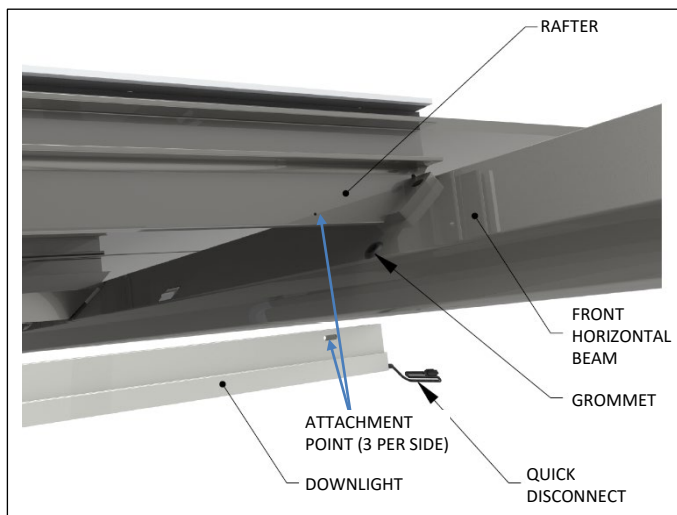

Fig. F5 – install rafter light
2. First rafter downlight: make connection at front horizontal to quick disconnect. Push rafter light connection through grommet. Grommets may be removed to push wires through and then reinstalled, if necessary. See Fig. F5. Using a 3/32" hex key, attach downlight to rafter using (6) #8-32 x 5/16 socket button head cap screws, located in hardware pack #62599. Do not overtighten screws.
3. Install remaining rafter downlights: make connection to quick disconnects. Push connection through grommet on front horizontal beam. Attach downlight to rafter, see Fig. F5.